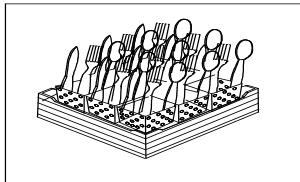

Fig. 10
- Wait until the led (3) turns off. (3 minutes 20 seconds)
- Take out scrap basket for cleaning by twisting to the left. (Fig. 10)
- Put cutlery in the cutlery baskets handles down. Mix spoons with knives and forks. (Fig. 10)